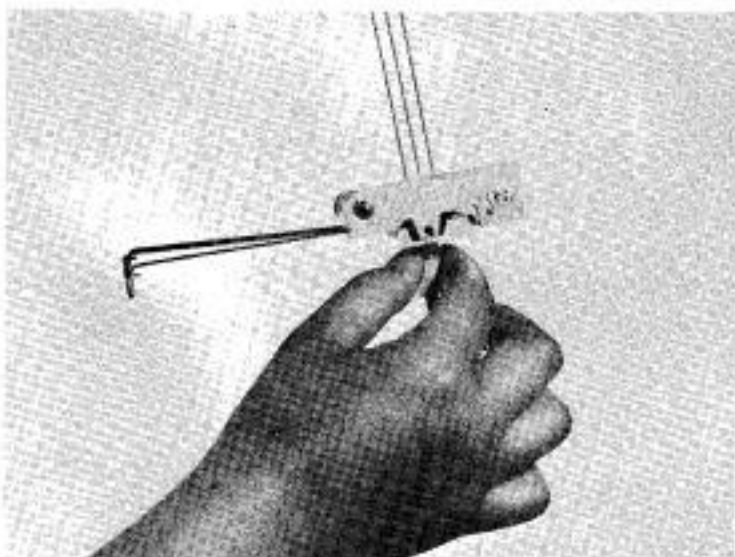

Fig. 16
11. Fit Overhead Feeder Unit to the top of the rod. (Fig. 16)